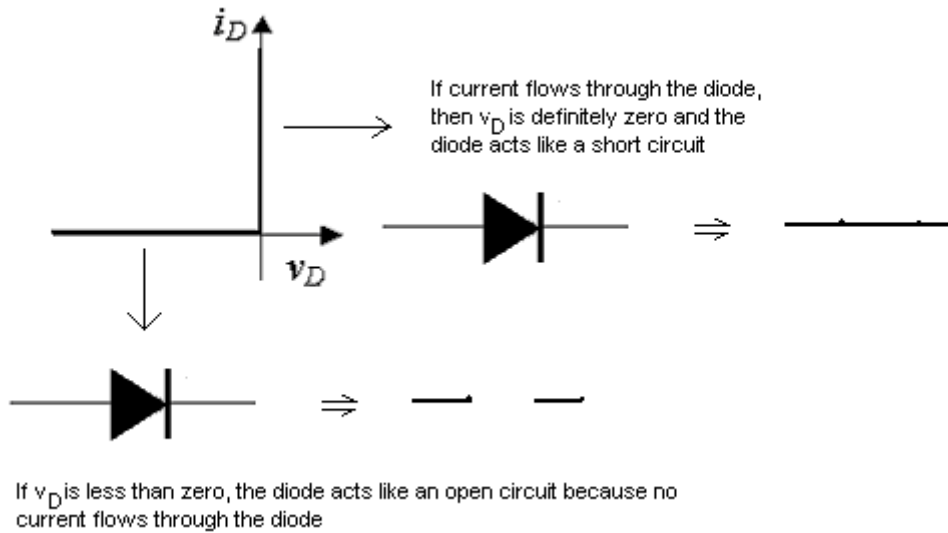
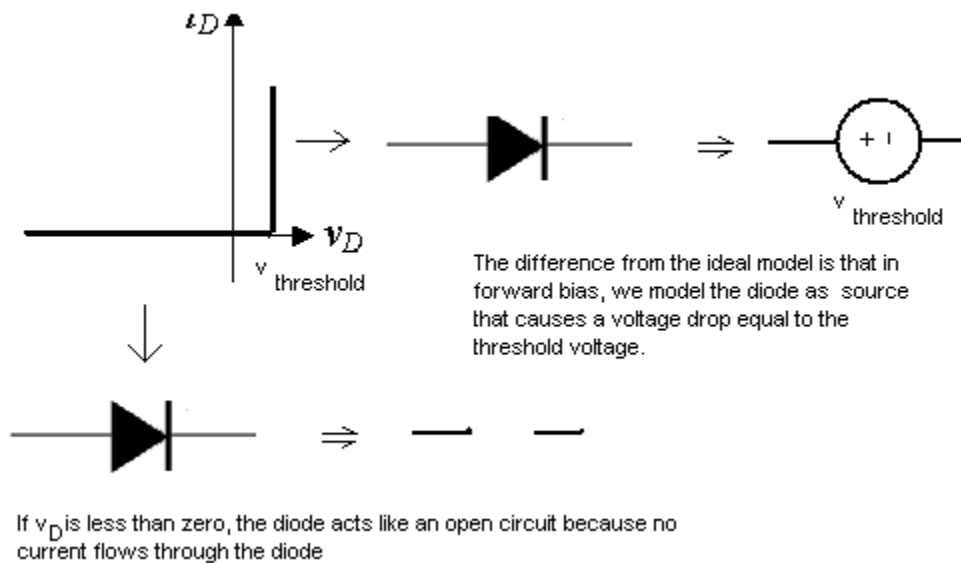
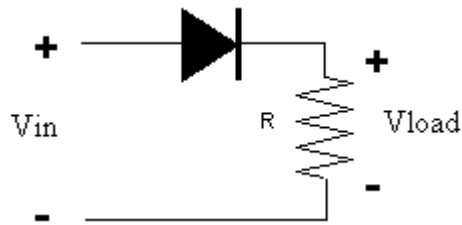
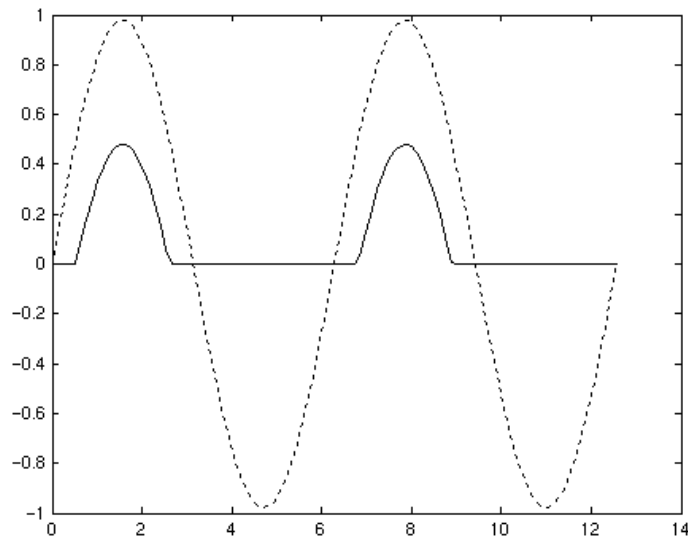

Figure 4. Ideal diode model without threshold voltage
Figure 5. Ideal diode model with threshold voltage
Figure 6. Half-Wave Rectifier Schematic
Figure 7. Half-Wave Rectifier, Voltage vs Time,  $V_{load}$  and  $V_{in}$  from figure 4 are plotted. The dotted line is the input sinusoid ( $V_{in}$ ).
So, what makes a diode hard to deal with? The diode equation above is very hard to solve in practice because it is non-linear. For instance, let us try and solve for the voltage across the resistor ( $V_{load}$ ) in figure 4 if  $V_{in} = 3$  V and  $R=1k$ :
One more property of the diode - looking at figures 4 and 5, if you think about the diode symbol as an arrow - you can infer that current can flow through the diode only in the direction of the arrow. Let us apply these two models and study the very practical diode circuit shown in figure 6 – the half-wave rectifier.
The half-wave rectifier is a circuit that allows only part of an input signal to pass2. The circuit is simply the combination of a single diode in series with a resistor, where the resistor is acting as a load (see figure 6 below).
The output from the half-wave rectifier is shown in figure 7. We can see that if the  $V_{in}$  is greater than zero (corresponding to a positive half-cycle on the sinusoid), the diode is forward biased. Using the threshold voltage model from figure 5, we can redraw the circuit in figure 6 as:
Hence, the effect of the diode is to drop a voltage of  $v_{\text{threshold}}$  from the input. You can see this effect in figure 7, the peak  $V_{\text{load}}$  voltage is less than  $V_{\text{in}}$  by  $v_{\text{threshold}}$ . When the diode is reverse-biased, that is when the  $V_{\text{in}}$  is the negative half-cycle of the sine wave, the diode is off and hence it is modeled as an open circuit. Thus, the current flowing through the circuit is zero and  $V_{\text{load}} = 0$ . This explains what happens during the negative half-cycles of the sinusoid in figure 7.
1. Build the half-wave rectifier circuit drawn in figure 6. Use a 60 Hz, 2 Vpp input signal with no offset (i.e. set the function generator to 0 offset and 1 Vpp). Let  $R=1k$ . **Note: You must be very careful with the function generator settings. If you have the output too high with a low resistance resistor (or if you have no resistance connected), you risk burning out the diode.** Show the completed circuit to your TA for check off.